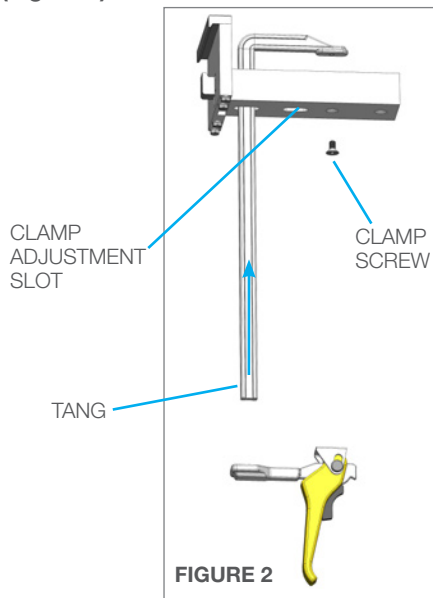

FIGURE 2
2. If more stand-off is needed from the face of the bundle, it is possible to adjust the Clamp by depressing the tang on the bottom of the vertical bar, sliding off the yellow Handle Assembly, unscrewing the Clamp from the Channel, and moving the Clamp to the open slot. Relocate the screw to the next position, tighten, and attach the yellow handle assembly. **(Figure 2)**